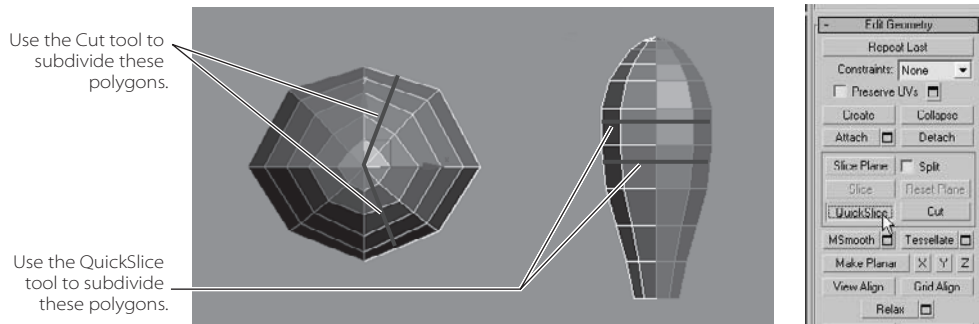

Figure 5.18
The wheel wells on the front sides of the body are the first details we will add to the body. To create the wheel wells, we need to add some more segments to the main body. To do this, we will use the Cut and Slice tools you used in the Hand and Dresser exercises in the previous chapter. You will be adding edges as shown in Figure 5.18 using the following steps.
2. To create the new cuts, you will need to use both the top view and the side view. You will create one cut along the top and down the length, and two cuts from the top to the bottom of the rocket (as shown in Figure 5.18).
3. QuickSlice creates straight lines of edges only, so you need to click where you want the slice to begin, move the pointer to where you want the line to end, and click again. Use Figure 5.18 to show you where to create the division line. When you first click, you will see the slice before it is created. You can set the direction and location of the inserted edges by moving the pointer, so you can be sure the position of the slice is where you want. To stop slicing, you can right-click in the viewport or click QuickSlice again to turn off the tool. Once you lay down the QuickSlice lines, your rocket shape will have new divisions, as shown in Figure 5.20.
Lay down a cut line along the body as shown in Figure 5.18 to create subdivisions in the model (Figure 5.23). (Remember that you are working on only the original side of the body.) The cut along the length of the body will start at the front at the vertex on the tip of the rocket (shown in the following graphic) and end between two vertices.